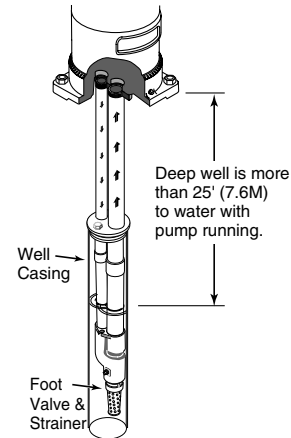

Figure 2 – Match pump to well
8. Match pump to well. Deep well is 25' (7.6M) or more to water with pump running. (Figure 2)